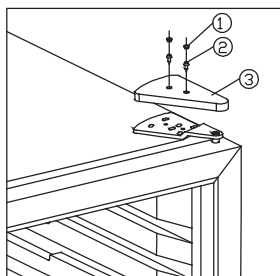
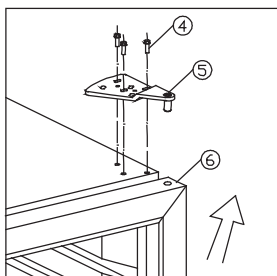
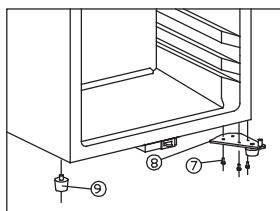
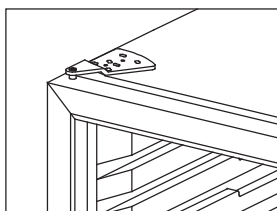

fig. 4.1
fig. 4.2
fig. 4.3
fig. 4.4
- Remove the rubber plugs (1). See fig. 4.1
- Remove the screws (2) and take off the hinge cover (3)
- Remove the 3 screws (4) which hold the top hinge and lift off the top hinge (5) **SUPPORT THE DOOR!** See fig. 4.2
- Lift off the door (6) and place the cabinet on the back
- Remove the 3 screws (7) which hold the bottom hinge (8) . See fig. 4.3
- Dismount the cabinet foot (9) from the cabinet and remount it on the opposite side
- Mount the bottom hinge in the left side using the 3 screws (7)
- Mount the top hinge, hinge cover, and rubber plugs. See fig. 4.4.